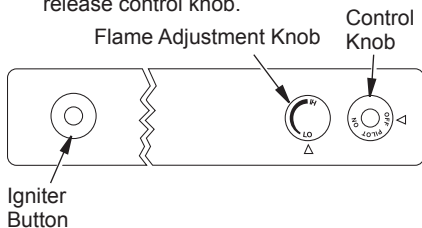

Figure 39 - Control Knob and Igniter Button Location (Shown as Supplied, No Control Options)
- Press in and turn control knob clockwise  to the OFF position (see **Figure 39**).
- Wait five (5) minutes to clear out any gas. Then smell for gas, including near the floor. If you smell gas, STOP! Follow "B" in the safety information, **Page 22**. If you don't smell gas, go to the next step.
- Press in and turn control knob counterclockwise  to the PILOT position. Press in control knob for five (5) seconds (see **Figure 39**).